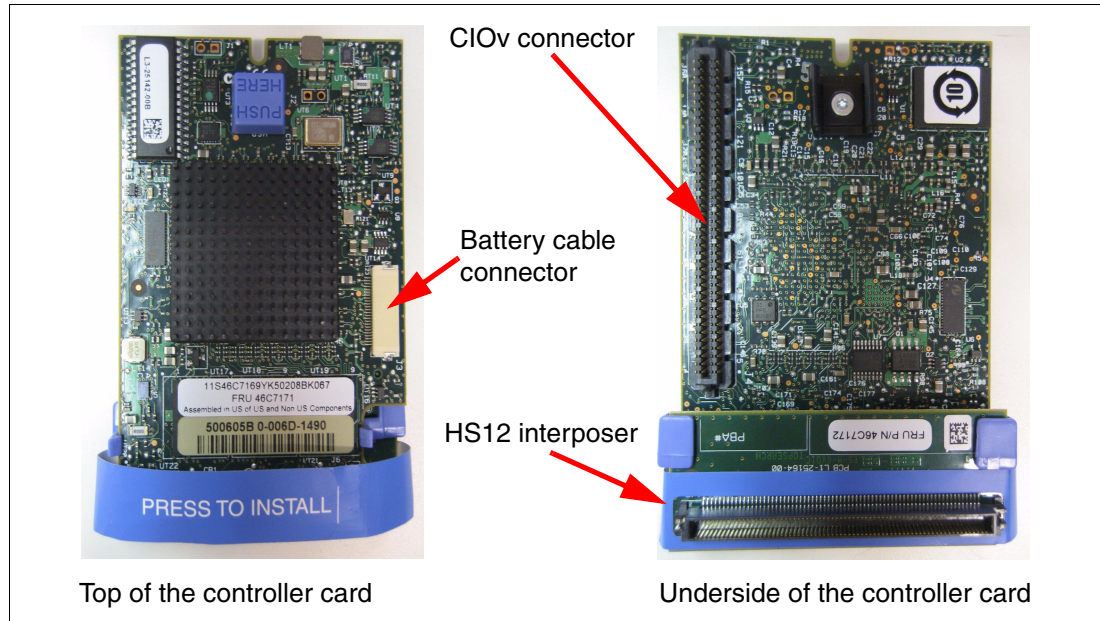

Figure 3-26 ServeRAID MR10ie (CIOv) Controller
The ServeRAID MR10ie, shown in Figure 3-26, is an SAS RAID Controller I/O Expansion Card for a blade server. It provides RAID support with battery-backed cache for onboard and external disk drives. Currently, the ServeRAID MR10ie (CIOv) Controller is supported in the HS12 type 8028 and HS22 blade servers. It is not supported on the HS12 type 8014 server.
The ServeRAID MR10ie expansion card has a connector to attach it to the paddle card socket on an HS12 type 8028 blade server. The ServeRAID MR10ie comes with an interposer that allows the connector to reach the socket on the HS12 blade server. Figure 3-26 on page 274 shows the location of the interposer. The ServeRAID MR10ie expansion card also has a CIOV connector that is used to attach it to an HS22 type 7870 blade server.
- ▶ Interposer for use with the HS12 (Figure 3-26 on page 274)